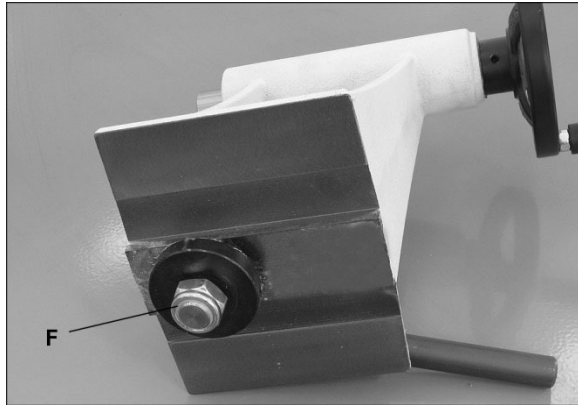

Figure 11
If one of them does not tighten properly against the bed when the locking handle is tightened, adjust it as follows. (Figure 11 uses the tailstock as the example.)
2. Turn tailstock on its side, and tighten lock nut (F, Figure 11) to increase cam pressure, or loosen the nut to relieve cam pressure.